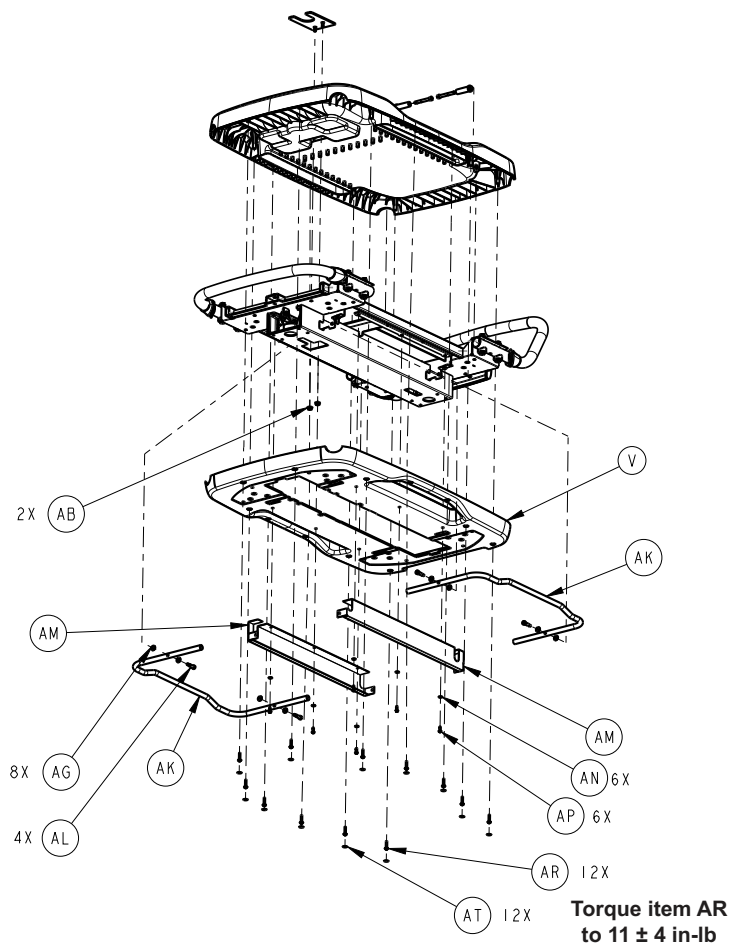

Figure 3 – Basket trend catch
4. Open the top and bottom drawers to access the cutout under the basket trend catch (AA).
5. Using a 3/8" nut driver, remove the two nuts (AB) that secure the basket trend catch to the upper cradle (Figure 3). Save the nuts.
6. Using a pick, remove the 12 cradle fastener cover labels (AT) from the bottom outside edge of the lower cradle.